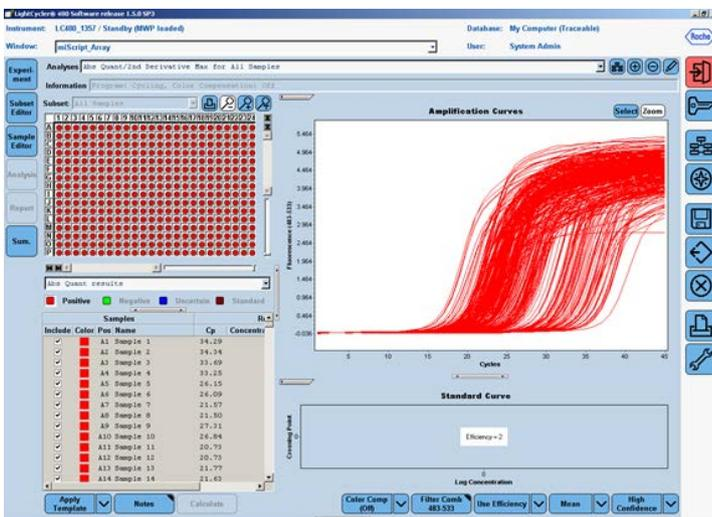

Figure 9. Obtaining the Crossing Point (Cp) Cycle values at the Second Derivative Maximum.
21. The “Analysis Window” with the amplification curves will appear (Figure 9). To proceed, click the down arrow button () on the lower right corner of the screen to set the analysis to “High Confidence.” Next click the “Calculate” button to generate Cp values. The calculation may take a few minutes.